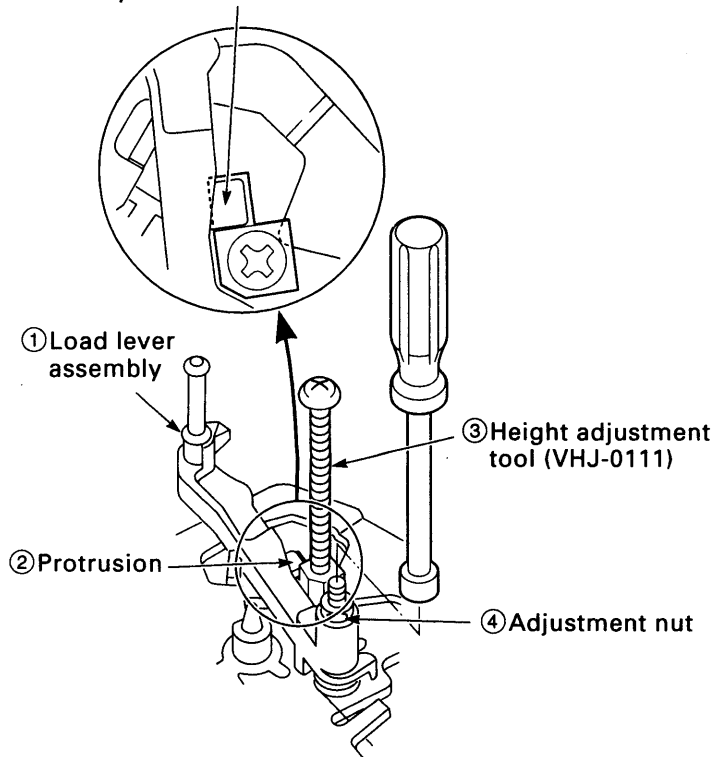

Fig.4-3-2
#### 4-3-2. LOAD LEVER ASSEMBLY HEIGHT ADJUSTMENT (See Fig.4-3-2)
2. Position the height adjustment tool (VHJ-0111) ③ under the full surface of the protrusion ② on the load lever assembly ①, as shown in Fig.4-3-2.
3. Using your fingers, gently screw the adjustment nut ④ clockwise into the nut box (VHJ-0048) ⑤ until the protrusion ② of the load lever assembly ① touches the height adjustment tool (VHJ-0111) ③ and the screw starts to feel tight. Next, loosen the adjustment nut ④ by 270° counterclockwise.
4. Load a cassette tape (NTSC: T-160, PAL: E-240). Wind the tape to the beginning, and repeat FF → REV five times (repeat for the same portion 30 to 60 seconds). If the bottom edge of the tape breaks, rotate the adjustment nut ④ in the counterclockwise direction by about 90°. Repeat FF → REV five times again and check that the tape edge does not break (adjust again if it does). Next, repeat CUE → REV five times and check that the tape is not damaged. If damaged, rotate the adjustment nut in the clockwise direction by about 90°. Repeat FF → REV and CUE → REV and check that the tape is not damaged.